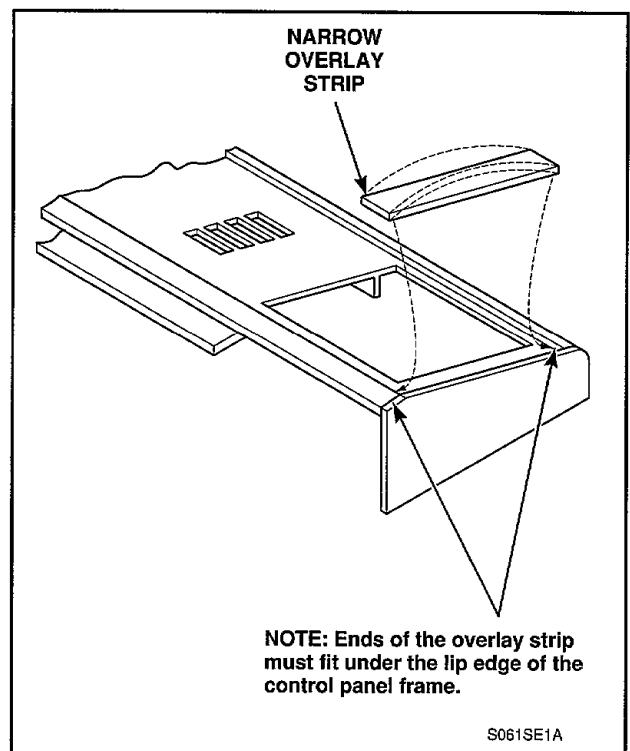

Figure 6
- d. Bow the narrow strip just enough to allow getting the ends of the strip into the top and bottom grooves of the panel frame, *Figure 6*.